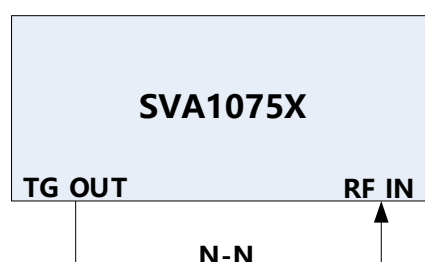

Figure 3-10 Connecting test instruments for TG Output
1. Connect RF IN port and TG OUT port by a N-N cable as figure 3-10 shows